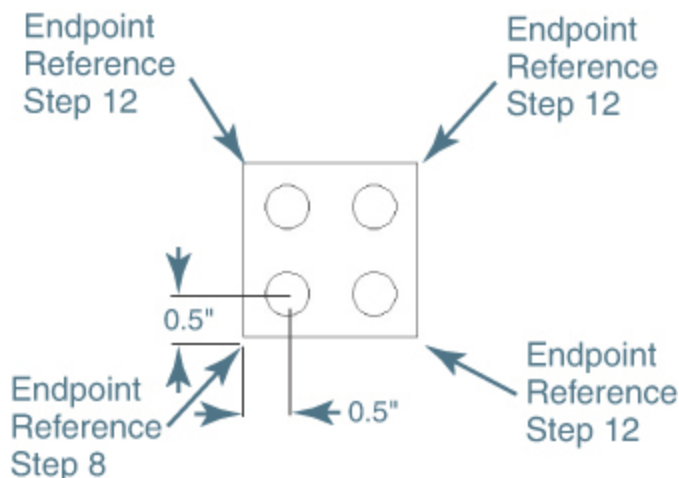

Figure 5-41
- 8 Place your cursor over the endpoints on the bottom-left corner of the square, and wait until the **Endpoint** AutoSnap marker and tooltip are displayed. Pick a point while the AutoSnap marker is displayed (see Figure 5-41).
- 12 Repeat steps 5 through 11 to locate three more circles with a 0.25 radius .5 inch in from each corner (see Figure 5-41).
13 Save your drawing as **CH05_EXERCISE8**. Your drawing should look like Figure 5-41.